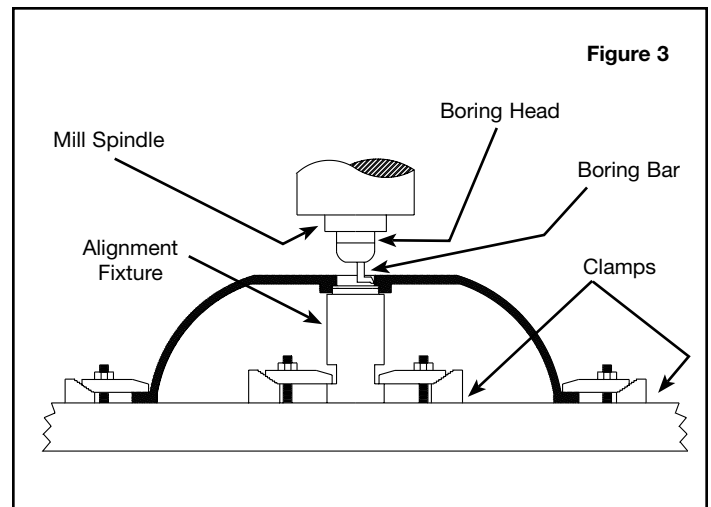

Figure 3
4. Place the bell housing or pump cover over the fixture so that the fixture pilot diameter engages the seal bore. Toe clamp the block mounting surface of the bell housing or pump cover to the mill table (**Figure 3**).